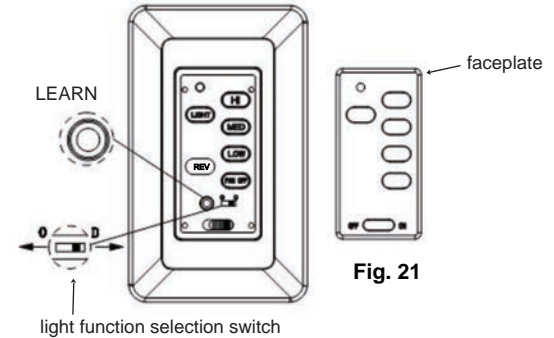

Fig. 21
## ACTIVATING THE LEARNING PROCESS(Fig.21)
1. Use a small flat screw driver and gently pry the faceplate apart from the top of wall transmitter. (Fig.21)
2. After installation is complete, AC power is turned on and OFF/ON SWITCH is at ON position within 30 seconds, press and hold the LEARN button for 3 seconds. Fan will turn on at medium speed and light (if installed) will turn on. This confirms that the SMART SYNC setting is active and ok. (FIG. 21)
## LIGHT FUNCTION SELECT SWITCH(Fig.21)